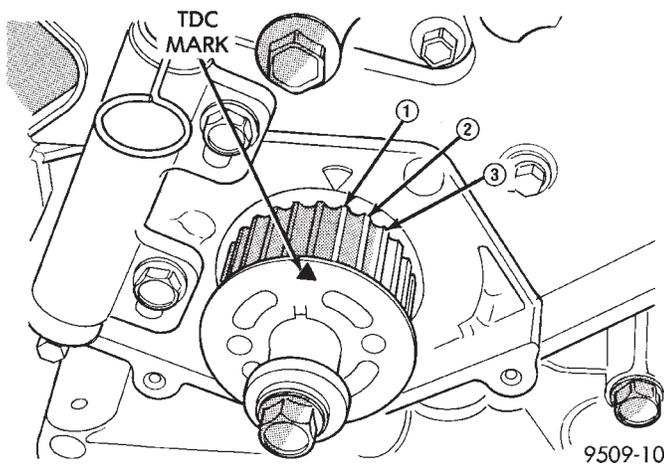

Fig. 35 Crankshaft Sprocket Timing
(3) When plunger is compressed into the tensioner body install a 1.9 mm (5/64) allen wrench or pin through the body and plunger to retain plunger in place until tensioner is installed.
(4) Set crankshaft sprocket to TDC by aligning the sprocket with the arrow on the oil pump housing, then back off to 3 notches before TDC (Fig. 35).
(1) Set crankshaft sprocket to TDC by aligning the sprocket with the arrow on the oil pump housing, then back off to 3 notches before TDC (Fig. 35).